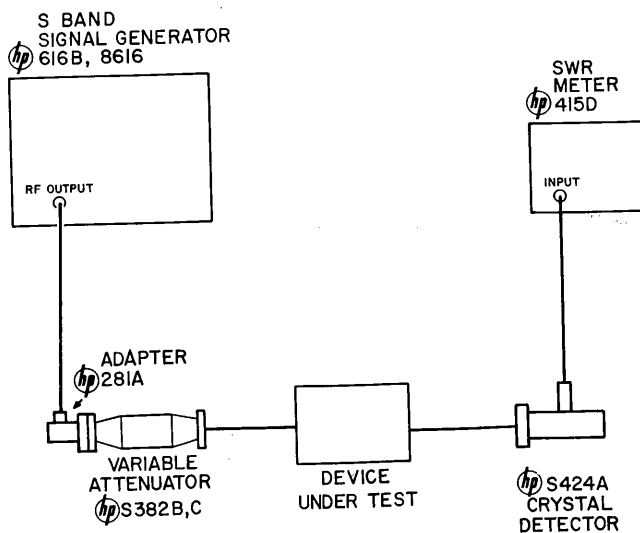

Figure 3. Insertion Loss Measurement
27. When sensitivity is important, the Model 424A is also useful for relative power measurements such as measuring insertion loss or monitoring power level where the power is sampled by a directional coupler. A typical S band setup for measuring insertion loss is shown in Figure 3. The device under test is a microwave filter. A reference reading is made with the filter out of the line and the variable attenuator set for any convenient reference greater than 10 dB. The setting of the attenuator and the reading (in dB) of the standing wave indicator are noted. The filter is then inserted in the line and the variable attenuator adjusted to obtain the reference reading on the Standing wave indicator. The difference between the first and second settings of the attenuator is the insertion loss of the device under test.